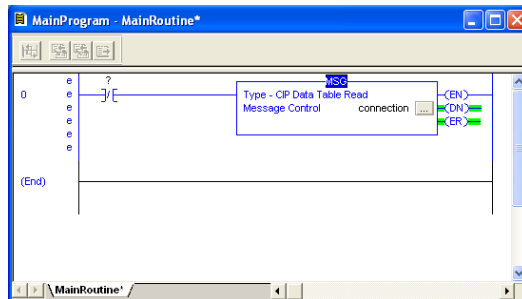

Figure 105: MainRoutine
- e) Click “OK” to close the MSG Configuration dialog. At this stage, MainRoutine should look like Figure 105.